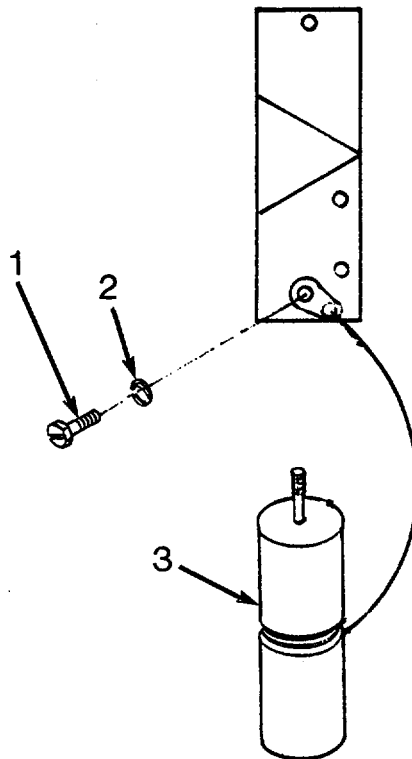

Figure 4-46. Door Blackout Lockpin Assembly
a. Inspect. (See Figure 4-46.)
(1) Inspect lockpin on interior side of door for any damage which would prevent insertion into the door locking mechanism.
(2) Inspect lockpin cable for strength and security of attachment to pin.
b. Replace. (See Figure 4-46.)
(1) Remove cable mounting plate bolts (1) and lockwashers (2) from blackout lockpin assembly which also secures the center latch plate.
(2) Remove lockpin assembly (3).
(3) Position new lockpin assembly (3) on latch plate and secure with bolts (1) and lockwasher (2).